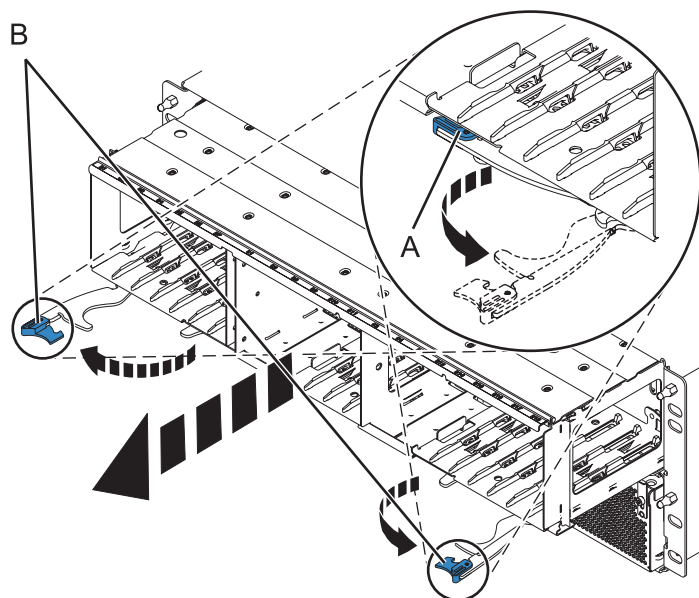

Figure 24. Removing the backplane from the enclosure
8. Remove the backplane as shown in Figure 24 on page 32.